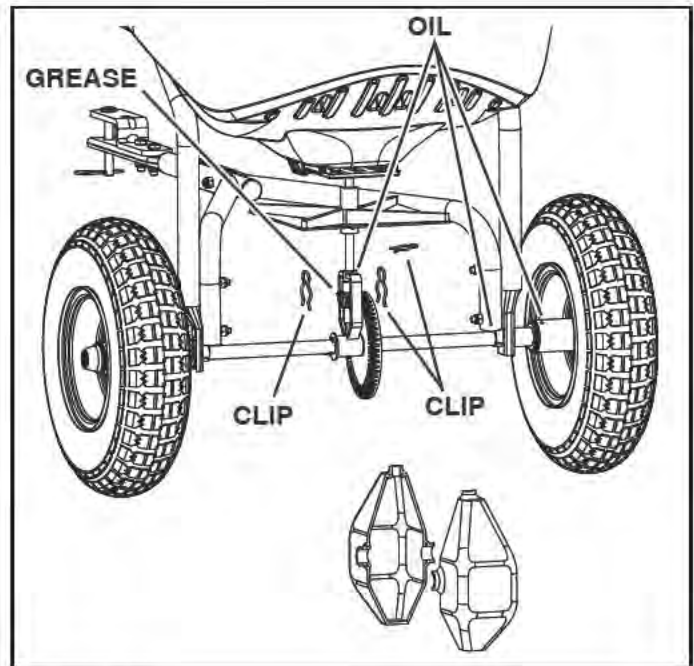

FIGURE 10
1. If the axle and gear assembly is disassembled, mark down the positions of the parts as they are removed. The drive wheel and large gear positions, in relation to the small gear, determine which direction the impeller will spin. Be sure to reassemble them in their original positions. (Refer to parts exploded view on page 18). Make sure the washers (items 18 and 31 on page 18 and 19) are in place when assembling the axle components. Add grease to gears. See figure 10.